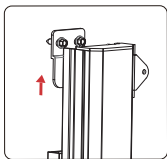

Fig.4
2. Please insert the arm(back channel) into the Z type bracket. See Fig.4 & 5